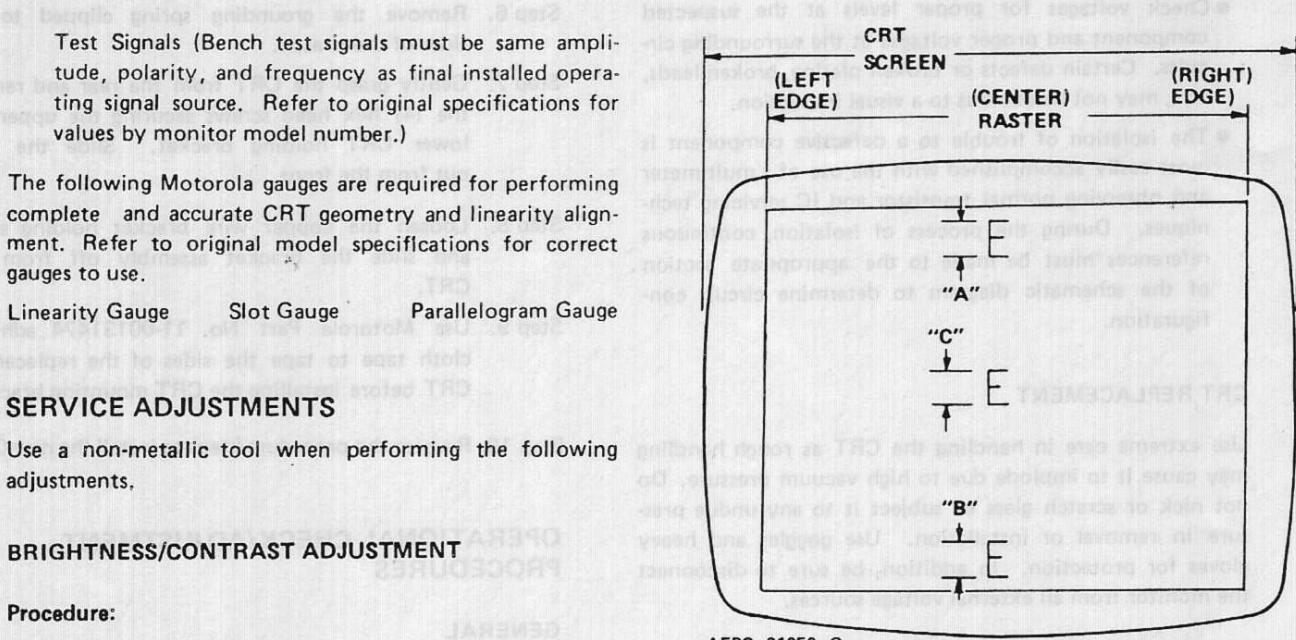

Figure 1. Partial CRT Display of Characters for Vertical Linearity Adjustment
- Step 3: (Refer to Figure 1.) Adjust the Vert. Linearity control, R211, until extreme top and bottom characters (designated "A" and "B") are equal in height to the center characters (designated "C").